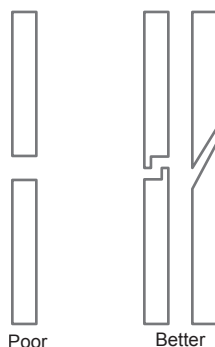

Figure 13. Enclosure Opening Considerations
- Physical Opening: Reduce the overall aperture of the physical opening in the enclosure to minimize ESD coupling or electromagnetic noise coupling onto the system within (see Figure 13).